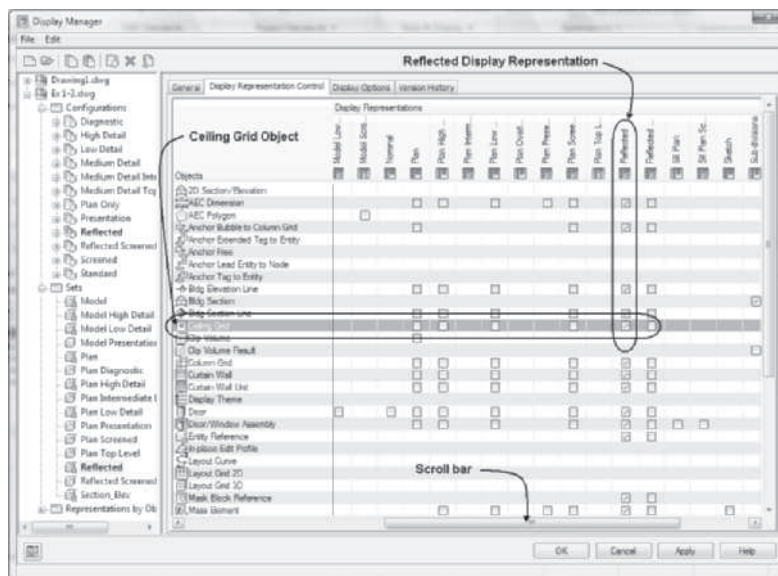

FIGURE 1.59 Reflected display configuration
17. Choose the plus (+) of the **Sets** folder in the left pane and choose **Reflected** in the left pane. Choose the **Display Representation Control** tab in the right pane as shown in Figure 1.59.
18. Scroll down the list of objects to **Ceiling Grid** and scroll to the right to the **Reflected** display representation as shown in Figure 1.59.
19. The **Ceiling Grid** object is toggled ON for the Reflected display representation as shown in Figure 1.59. Select OK to close the Display Manager.